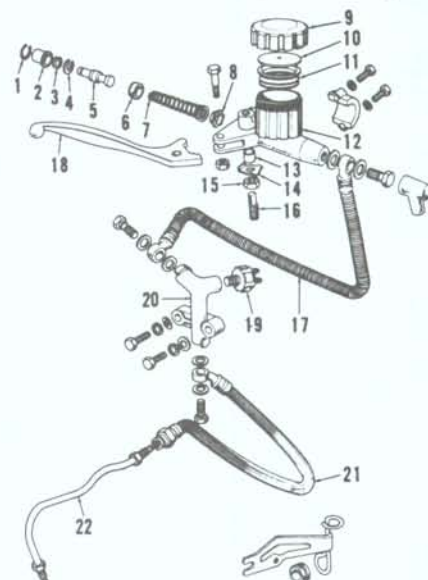

Fig. K13-34—Exploded view of master cylinder and hydraulic lines.
clip (1—Fig. K13-34). Remove dust cover (2) and snap ring (3). Stopper (4) and piston assembly (5) may now be removed from cylinder. Clean all parts with alcohol and relubricate with clean brake fluid. Standard inside diameter of cylinder is 14.000-14.043mm (0.5512-0.5529 inch). Maximum allowable inside diameter is 14.080mm (0.5543 inch). Piston assembly should be renewed if scratched, pitted or worn to less than 13.960mm (0.5496 inch) in diameter. Rubber parts should be renewed if swollen, cracked or rotted. Minimum free length of return spring (7) is 48mm (1.889 inch). All parts should be thoroughly lubricated with clean brake fluid during reassembly.